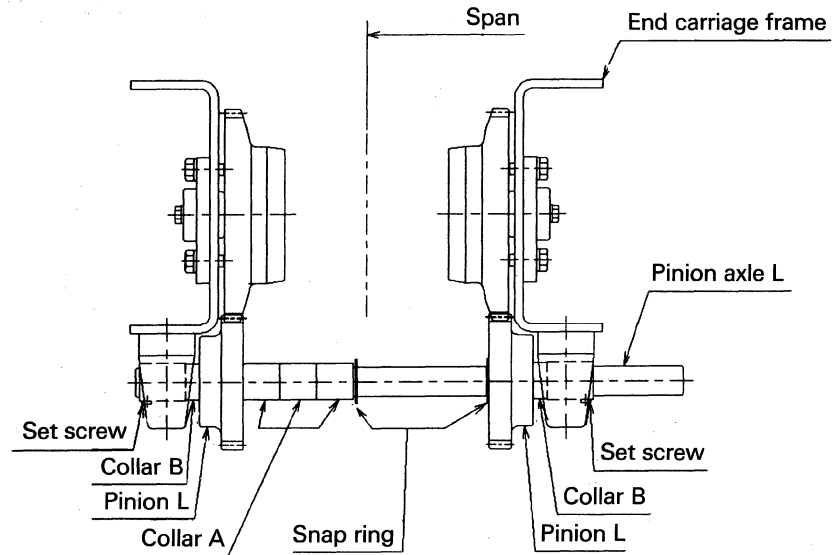

Fig. 12
Numbers of collar A determined by the travel rail width (T) is built in the pinion axle (Fig. 12) for adjustment of collar A, by referring to Fig. 12 and Table 8.